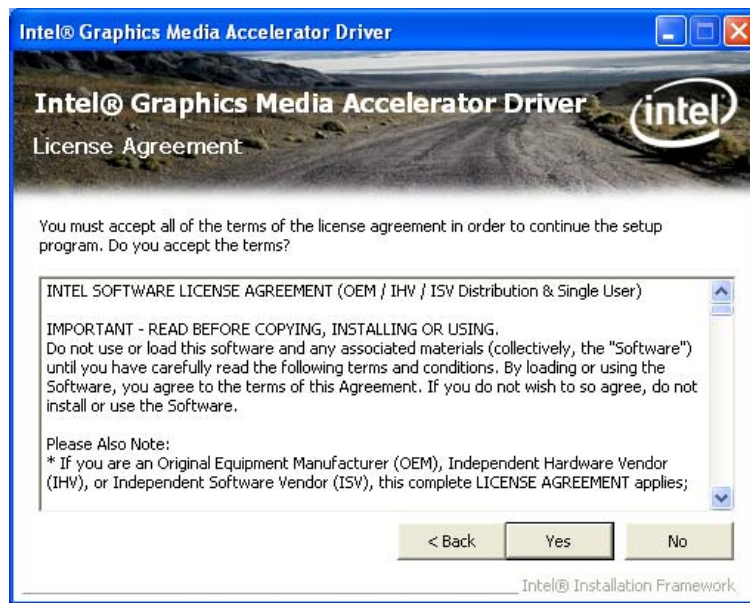

Figure 7-11: VGA Driver License Agreement
- Step 8:** The license agreement in **Figure 7-11** appears.